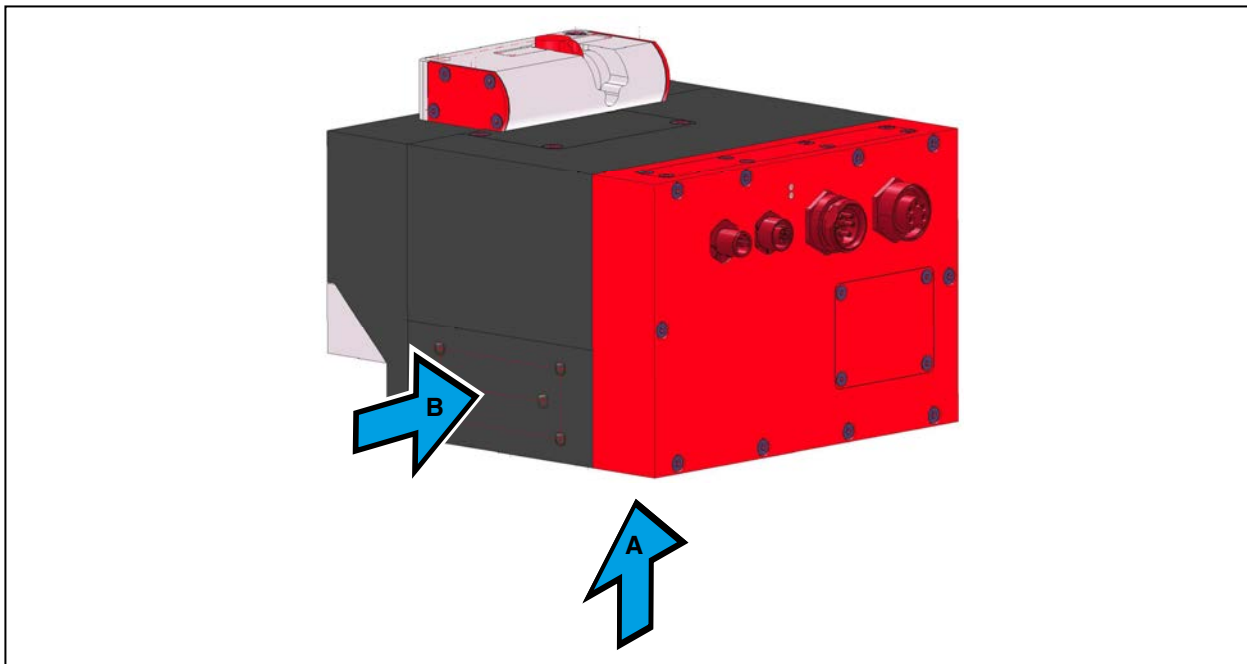

Fig. 7.1: Mounting possibilities of the FPM
In the base plate of the housing (A) as well as in the side wall (B) there are four fastening threads M6 for the fixture on a customer specific mounting (see Fig. 7.1). Please mount the housing with four screws M6. We recommend screws of the strength class 8.8 and a tightening torque of 35 N·m.